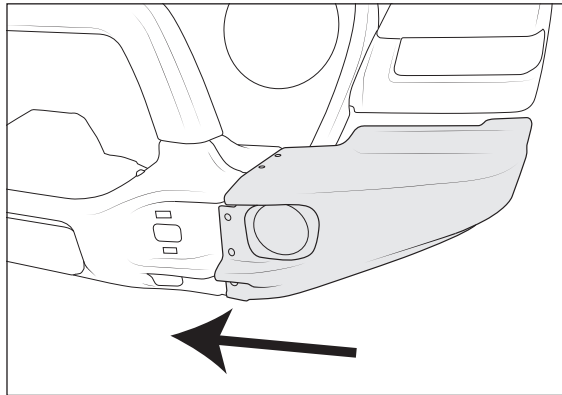

Figure 24
1. Carefully slide corner assemblies in from the side of the bumper, being careful not to damage the fog light lenses as the edge slides across it (this is where the masking tape is critical). Corner outer stamping will shell over center section. Back side of corner weldment will fit tightly against the main weldment, so an extra set of hands may be helpful to guide it over the M8 u-nuts at the rear. A slipper bar can also be helpful to get all the holes aligned (fig. 24). Be careful not to push the corner on too far and don't lift the outer end during installation. This can cause the sharp edge on the corner stamping to damage the coating on the mating pieces and lead to premature corrosion if installed improperly.